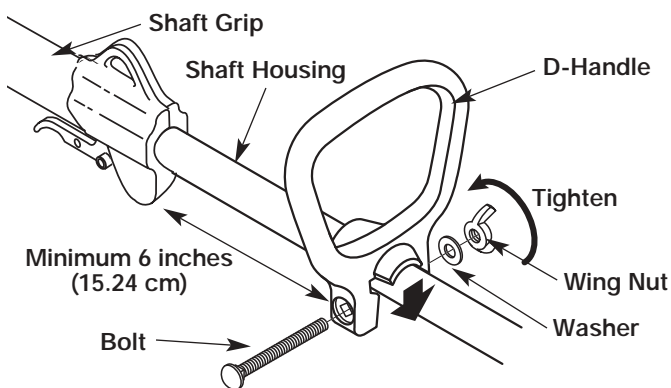

Figure 1
1. Push the D-handle down onto the shaft housing so that the handle slants towards the shaft grip. Make sure the squared bolt hole in the handle is to the right. See Figure 1.